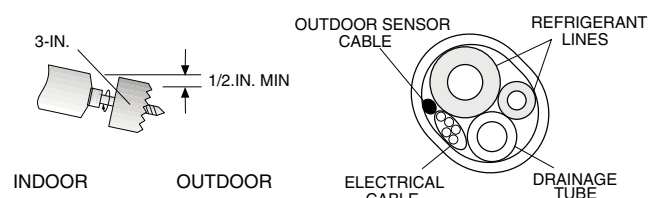

Fig. 6 — Drill Holes
the wall for the refrigerant lines, drainage hose and control cable passage as shown in Fig. 6.
5. Make sure the drainage hose is at the bottom side of the wall through-hole (see Fig. 6).